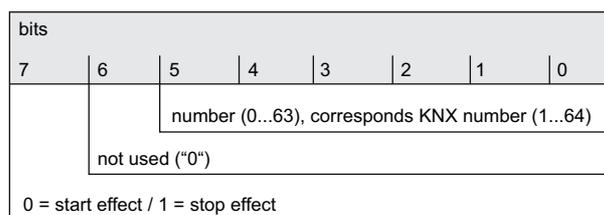

Figure 58: Structure of the object value for the effect extension
The structure of the telegram value for the effect extension is orientated to the KNX DPT 18.001, which is also used in the scene extension (figure 58).
- i** It should be noted that the object value of the extension input is always "1" less than the configured KNX number, in accordance with KNX DPT 18.001 (figure 58).